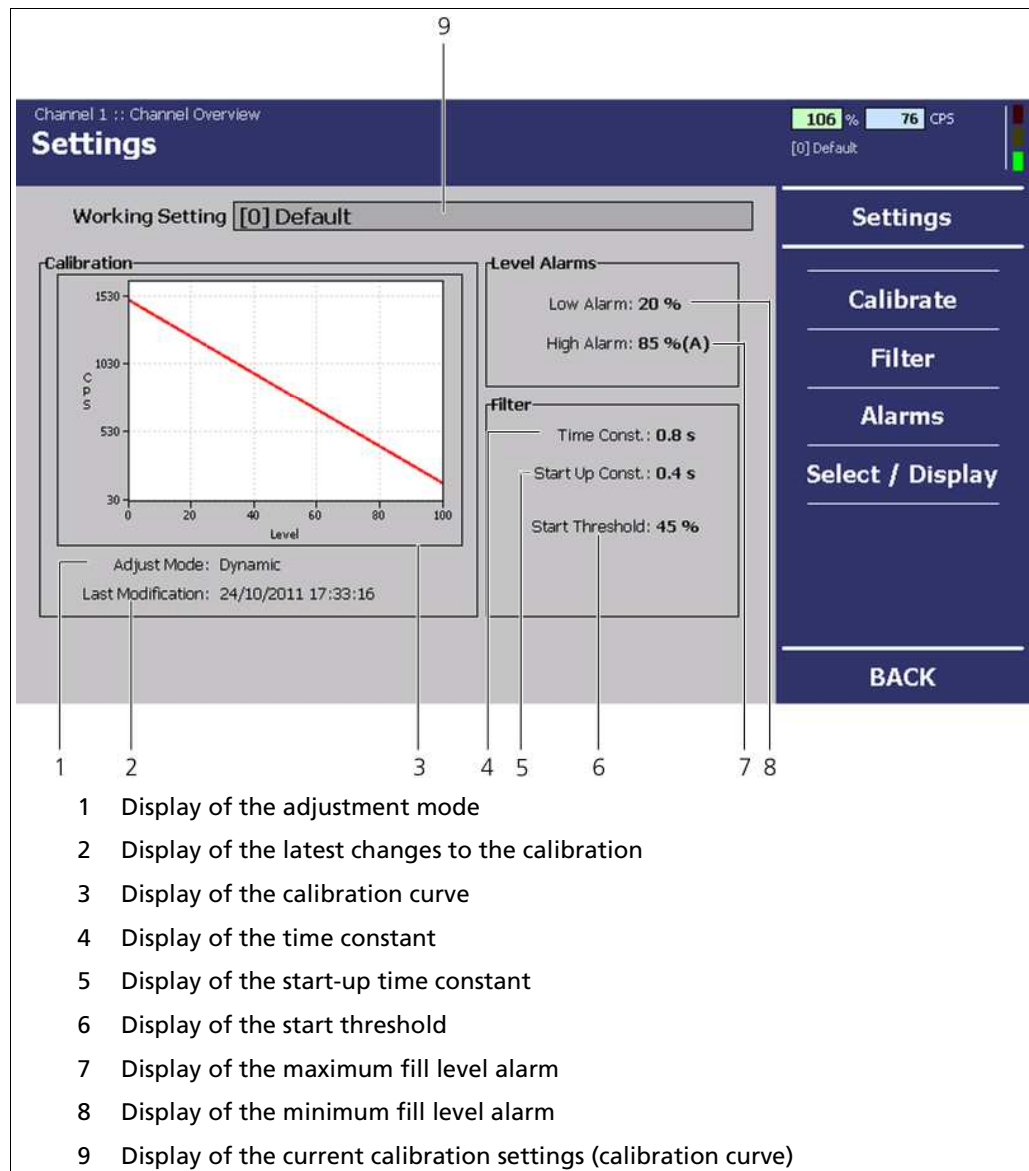

Fig. 54 "Channel Overview" Menu, Settings
Active Settings	Display of the selected calibration curve and settings (Fig. 54, Pos. 9)
Calibration	Display of adjustment mode (Fig. 54, Pos. 1) Display of the latest change to the calibration settings (Fig. 54, Pos. 2) Display of the calibration curve (Fig. 54, Pos. 3)
Fill level alarm	Fill level alarm display (Min.) (Fig. 54, Pos. 8) Fill level alarm display (Max.) (Fig. 54, Pos. 7)
Filter	Display of the time constant (Fig. 54, Pos. 4) Display of the start-up time constant (Fig. 54, Pos. 5) Display of the start-up threshold (Fig. 54, Pos. 6)
In the "Channel Overview" menu, click on Settings | Calibration (Fig. 54) in order to reach the "Calibration" submenu.
1. In the "Channel Overview" menu click on **Settings | Calibration** (Fig. 54).
1. Click in the "Channel Overview" menu | Settings | Calibration (Fig. 54, Pos. 2).
In the "Channel Overview" menu, click on Settings | Filter (Fig. 54, Pos. 4).
In the "Channel Overview" menu click on Settings | Alarms (Fig. 54).